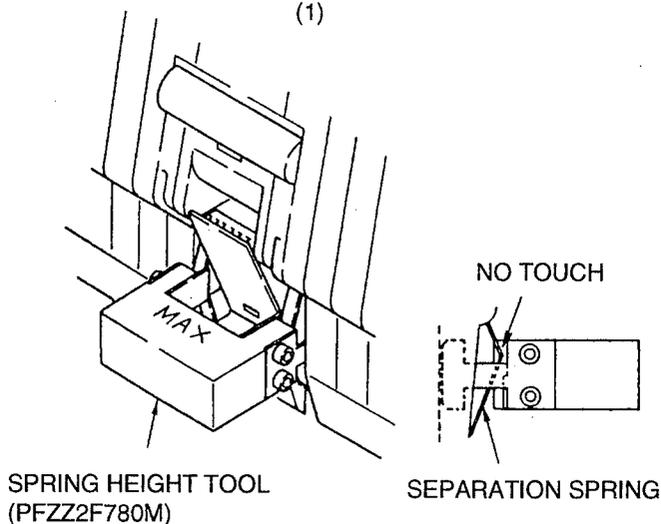

Fig. 1
2. Check the highest level of the separation spring with the spring height tool (PFZZ2F780M). Please make sure that the separation spring does not touch the tool during this operation. (Both right and left) (See Fig. 1).